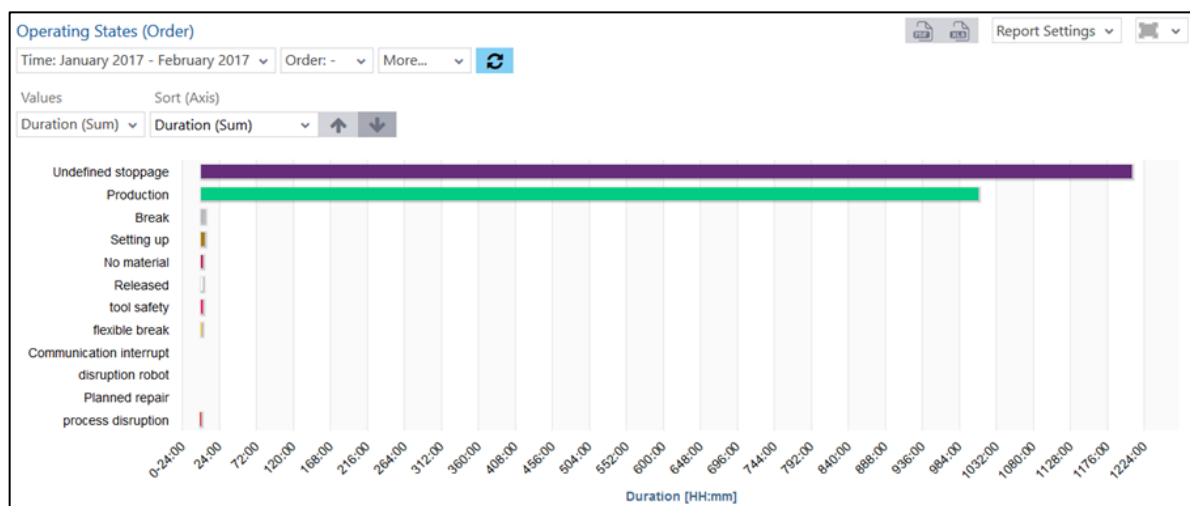

Fig. 83: Hit list of operating states (order) as bar chart
- Hit list of operating states (order) as bar chart (fig. 83):